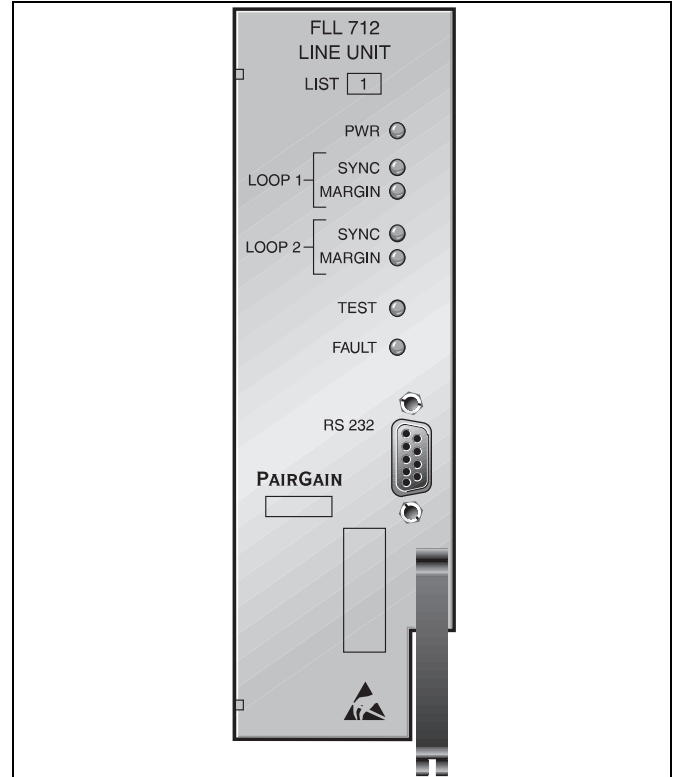

Figure 1. FLL-712 COT Line Unit Front Panel. The PairGain FLL-712 is the Central Office end of the PG-Flex subscriber carrier system.
6.03 The RS-232 Maintenance Port located on the front of the Line Unit (see Figure 1) enables the technician to configure and test the PG-Flex system using an ASCII terminal (see Section 8). A terminal is not required for normal installation and operation of PG-Flex, but may facilitate troubleshooting procedures on the HDSL line.
7.01 The front panel of the FLL-712 COT Line Unit contains the following indicators and connector (see Figure 1):